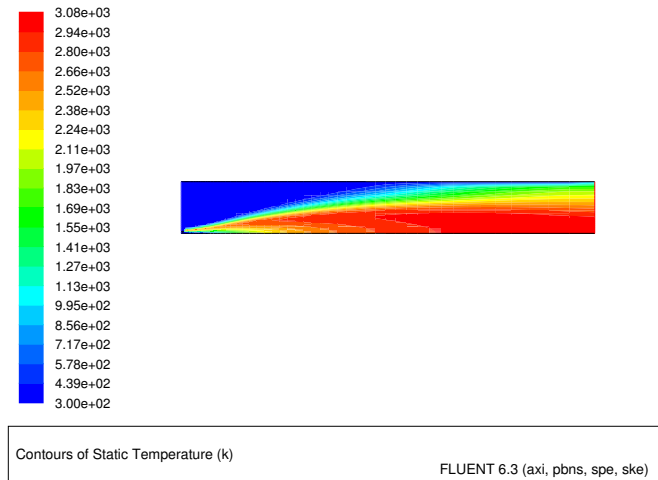

Figure 13.3: Contours of Temperature: Constant C_p
7. Review the current state of the solution by displaying filled contours of temperature (Figure 13.3).